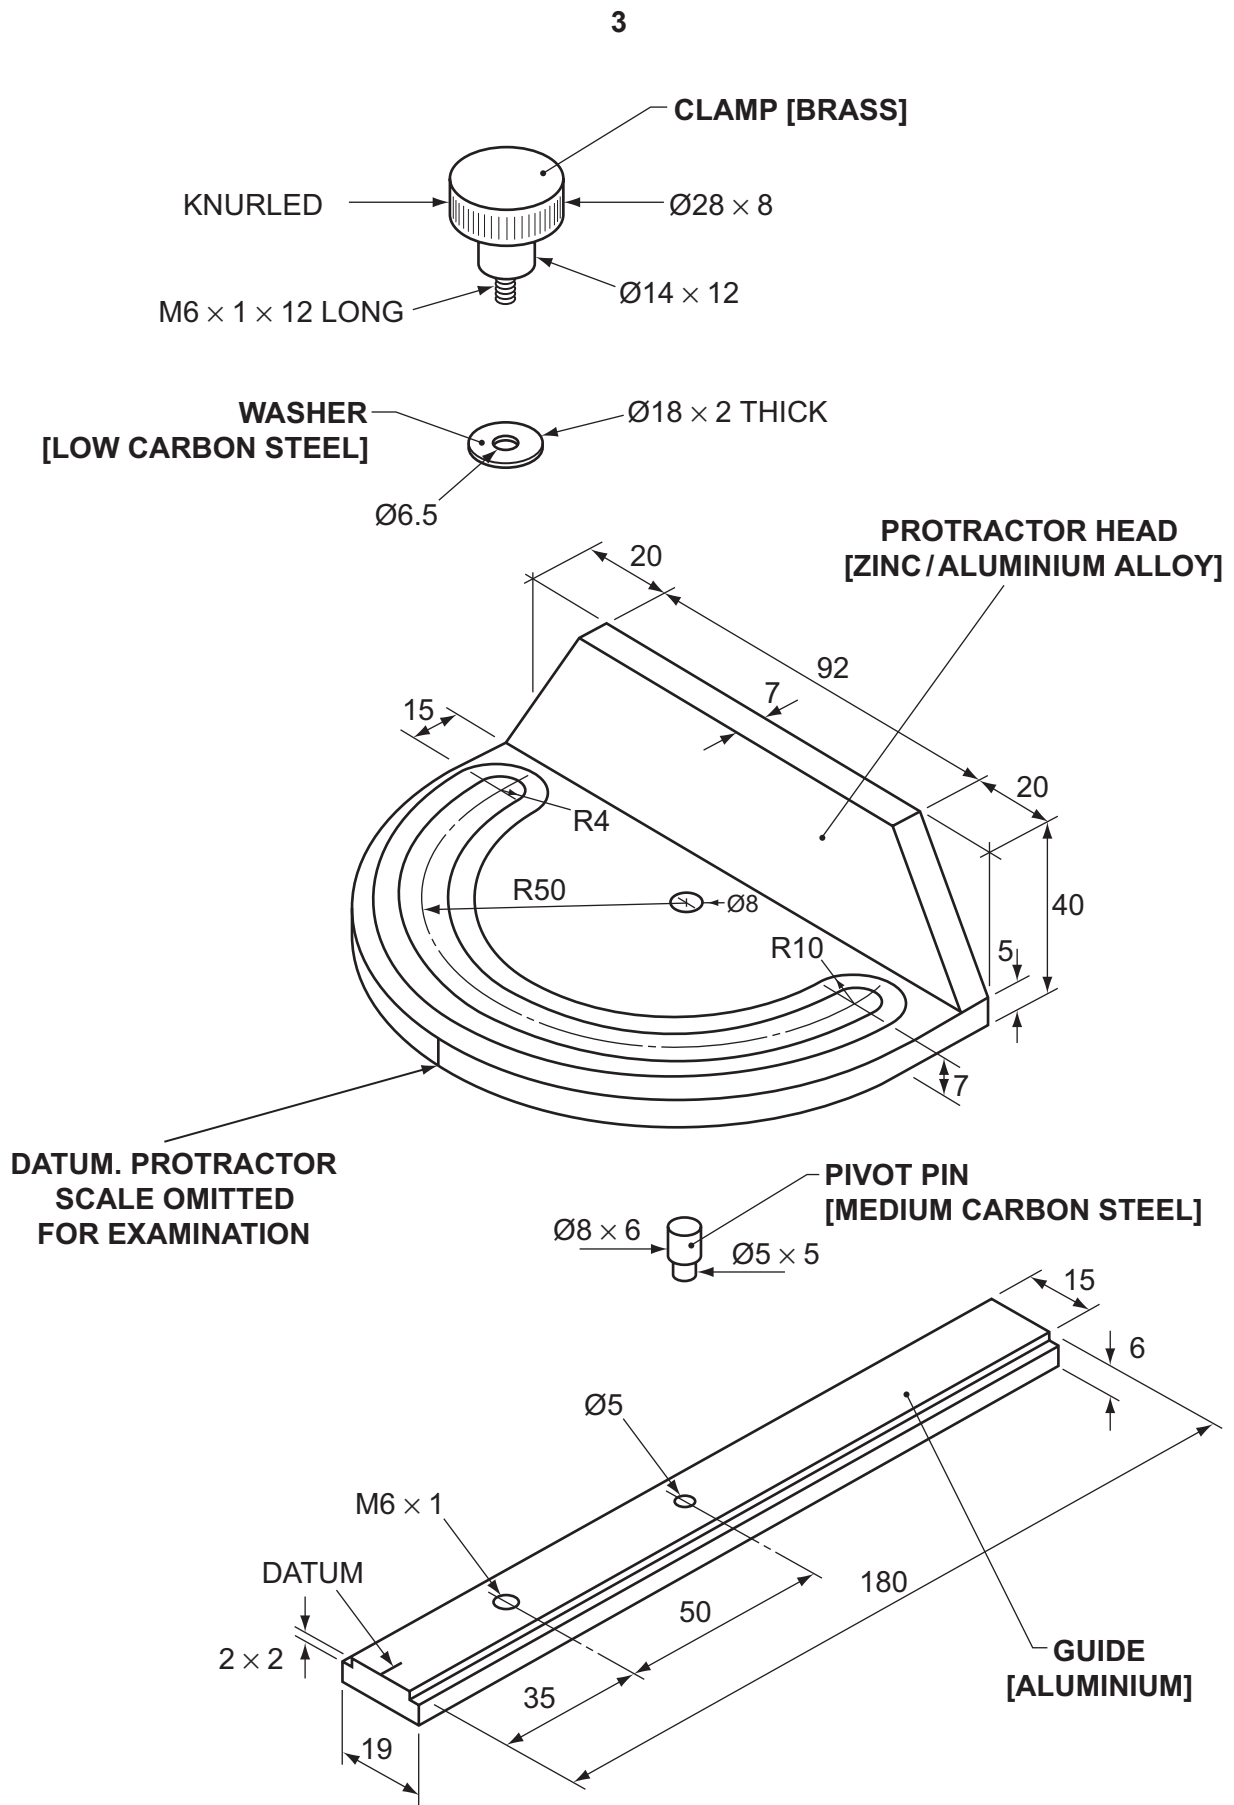

Fig. 1
- 1 The exploded pictorial drawing of a protractor guide is shown in Fig. 1.